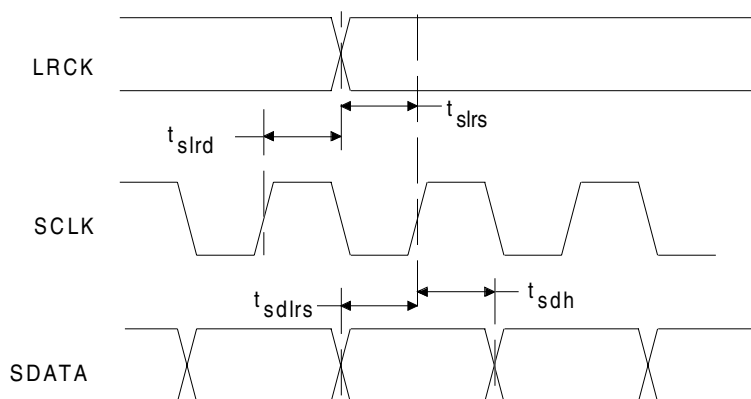

Figure 1. Serial Mode Input Timing
3. Valid with the recommended capacitor values on FILT+ and CMOUT as shown in Figure 1. Increasing the capacitance will also increase the PSRR.